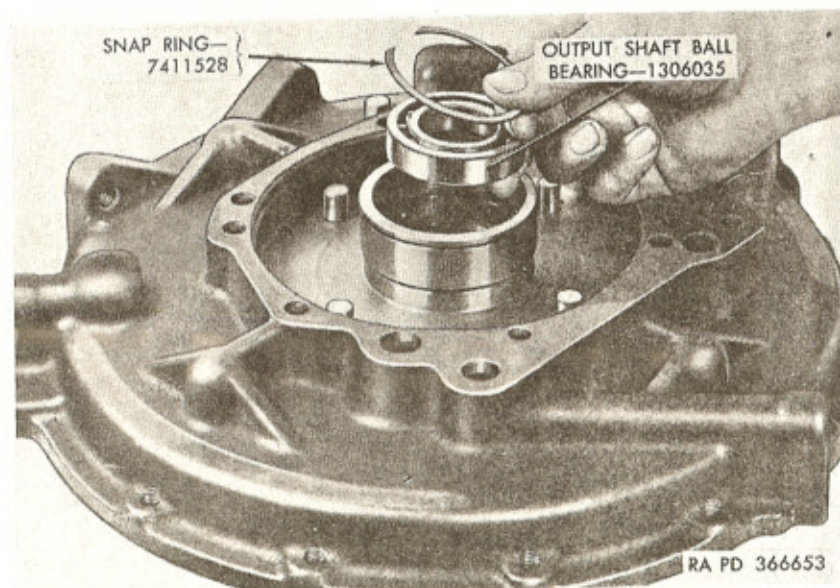

Figure 152. Output shaft bearing and snap ring removed from bearing retainer.
g. Remove snap ring (A) holding output shaft ball bearing (B) in bearing retainer (fig. 152), using screwdriver. Discard snap ring. Tap ball bearing out of retainer, using hammer and block of wood.